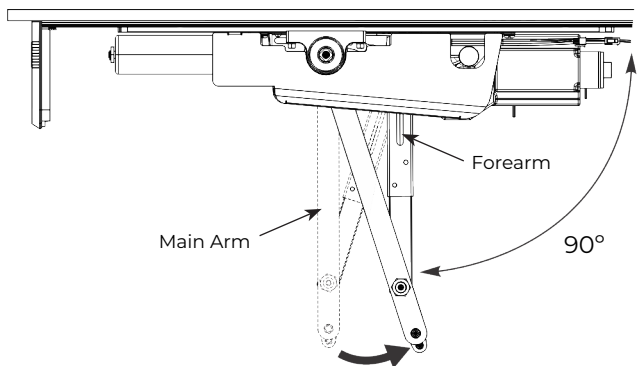

Figure 24 View from ceiling looking downward
- With door closed, rotate main arm away from hinge until forearm is perpendicular (90 degrees) with door. (Figure 24)